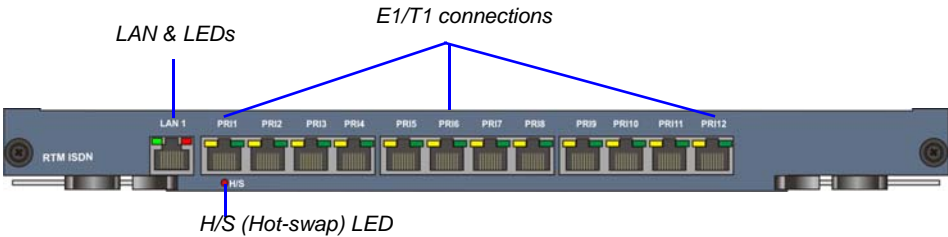

Figure 1-12 RMX 4000 RTM ISDN Rear Panel Layout
- 7 E1 or 9 T1 PRI lines that can be plugged into any of the 12 connections as shown in Figure 1-12